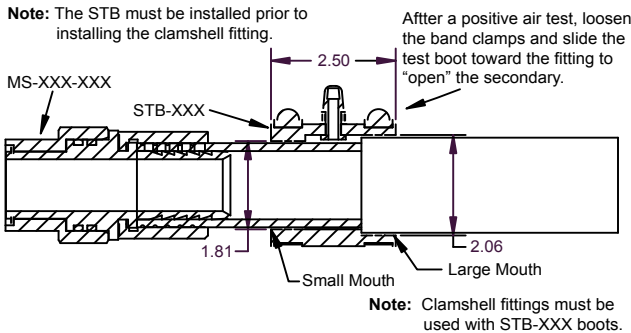

Figure 1: Clamshell Secondary Test Boot (STB-XXX)
3. Square off and de-burr the end of the pipe. If you are using SC (Secondary Contained) piping, cut back the scuff guard layer to the sump wall (approximately 9" in dispenser sumps) and cut back the SC layer 4½". For further cutback details, see the process's complete description in the DWC-XXX Double Wall Cutter (SC) Installation Instructions or in APT's Installation Guide Overview.
4. Push the pipe through the appropriate entry boot in the sump wall and slide the Secondary Test Boot over the pipe. Clamshell STBs must be oriented so the larger mouth is facing the pipe secondary (See Figure 1).